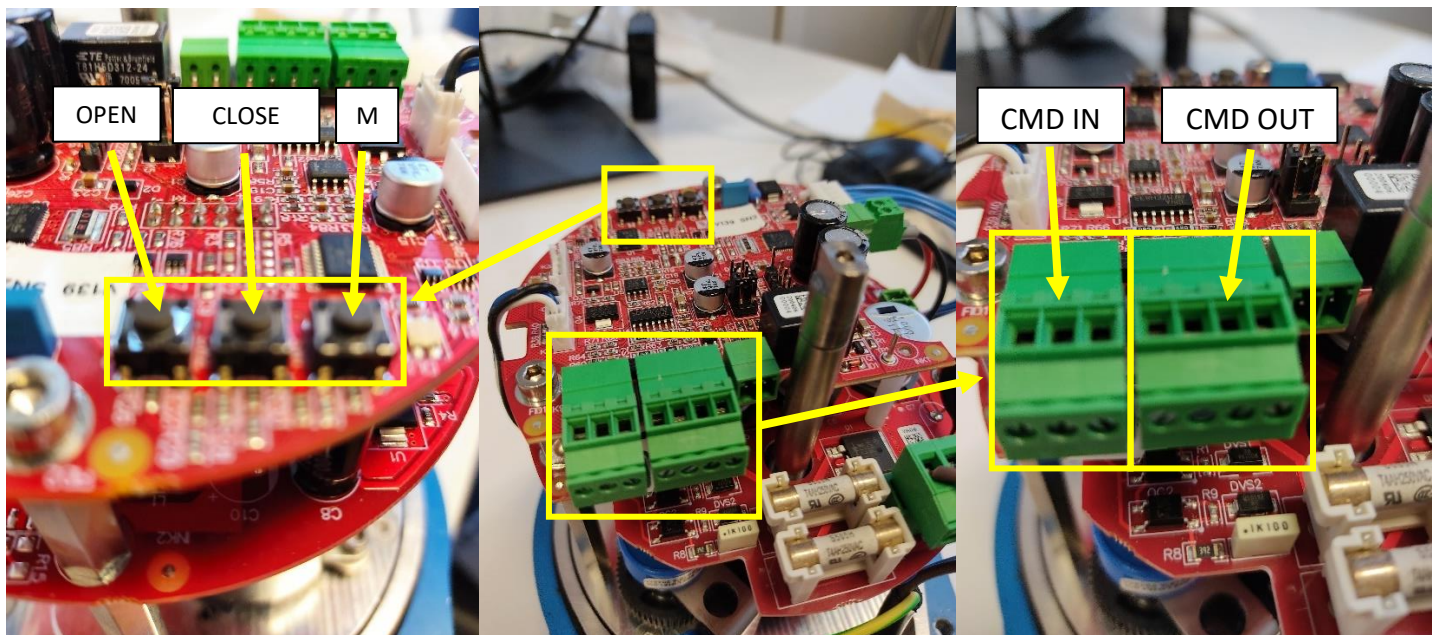

Fig.5 Buttons for the manual planning and terminal block "CMD IN" and "CMD OUT"
The board has two separate analog inputs of control for the positioning of the actuator (terminal block "CMD IN", Fig.5). The two inputs allow to apply a voltage control, by providing a signal from 0 to 10 V, or a current control, by providing a signal from 4 to 20 mA.
**ONLY ON REQUEST:** An useful feature of the board is the availability of an output on which the 10V fixed voltage is present. This output is available for the user, it can be used to connect the end of a potentiometer with which to move the valve (terminal block diagram "CMD IN", Fig.5). To use the 10V output to control the valve via a potentiometer, this must have a value between 1 kΩ and 4.7 kΩ (the recommended value is 1 kΩ).
The open and closed positions can be set using the three buttons on the electronic board (Fig.5):